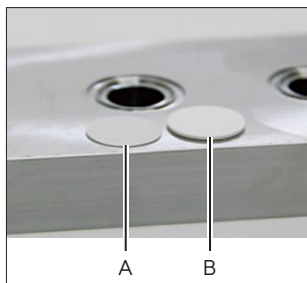

Fig. 4c: Filters
- First, place the filters and gaskets on the flow adapter. All required filters and gaskets are in the filter set for the BioPAT® Xgas (SB-20-02-0001, Spare part kit for BioPAT® Xgas). For each recess there are two different filters. There is a flat filter (fig. 4c:A) and a thicker filter (fig. 4c:B). The flat filter is hydrophobic and the thicker is the particulate filter. For each recess there is a gasket, a flat filter and a thicker filter in the filter set (fig. 4c).